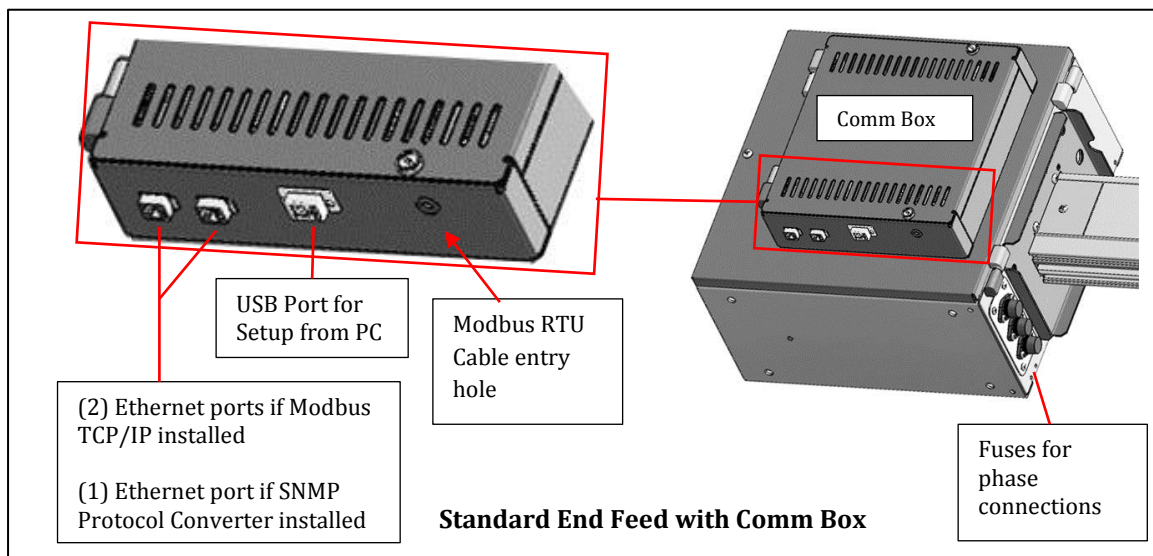

Figure 1 Customer Network Connections on Comm Box
You can daisy-chain up to (32) power feeds with Modbus TCP/IP using the (2) Modbus TCP/IP Ethernet ports on the Comm Box (see Figure 1).